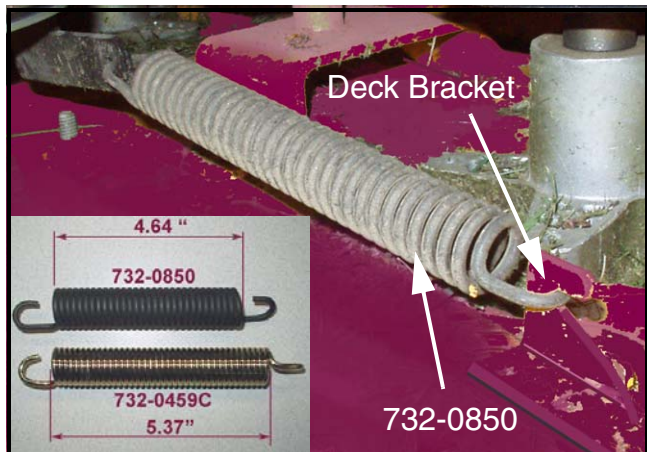

FIGURE 1
3. Inspect the deck idler tension spring. See Figure 1.
If the spring is black in color, (**732-0850**) see Figure 1, proceed to Step 4.